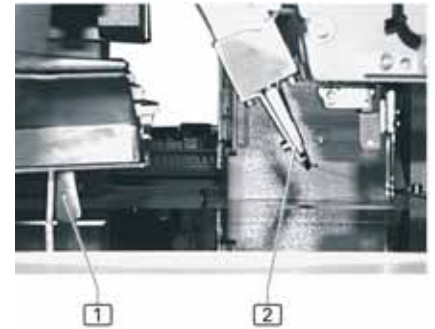

fig. 5
**fig. 5:** At the end of the sewing operation, both corner knives **1** are raised and the corner cut is made at the beginning and end of the seam. The needle threads are picked up by needle thread catcher **2** and cut at the same time.